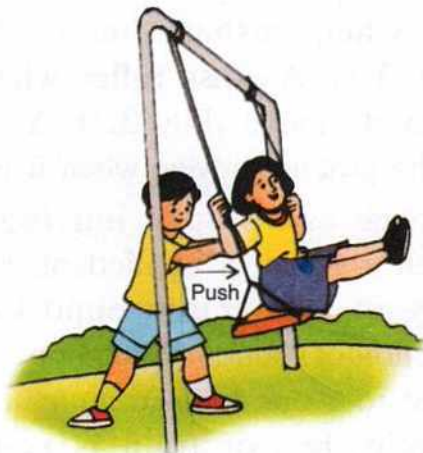

Fig. 3.8 Force (push) on swing moves it faster
3. **A force can make a moving body to move faster :** When a force is applied on a moving body in the direction in which it is moving, the body begins to move faster. *For example*, the speed of a bicycle increases, when more force is applied on the pedal by the cyclist. A swing moves faster when a push is given in the direction of the moving swing (Fig. 3.8).